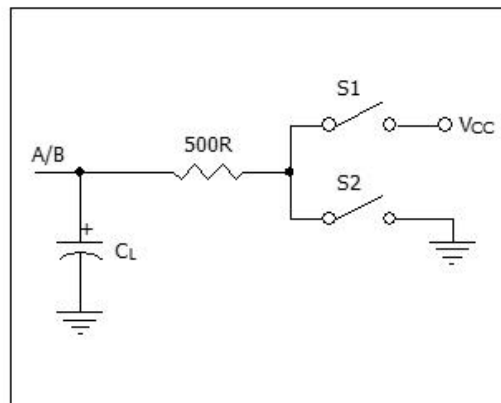

Figure 4 Driver Enable/Invalid Timing Test Circuit
- (4) Test circuit is shown in Figure 4